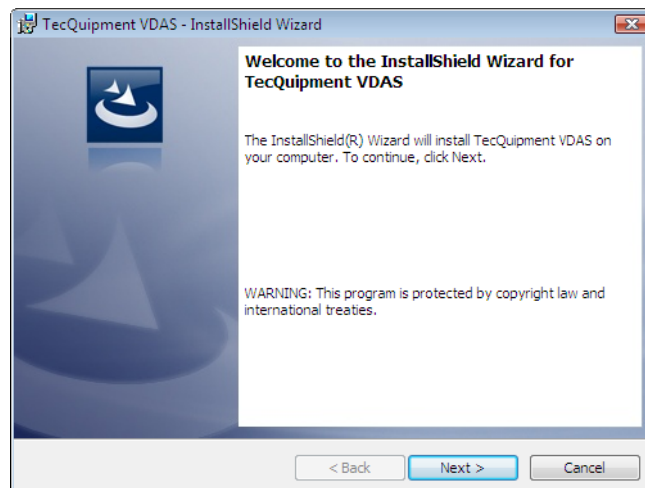

Figure 13 First VDAS Installation Screen
6. When the .NET Framework has installed, (or if you already have it installed) the first screen of the TecQuipment software will appear as in Figure 13. Click on the 'Next' button and obey the instructions of the next screens.